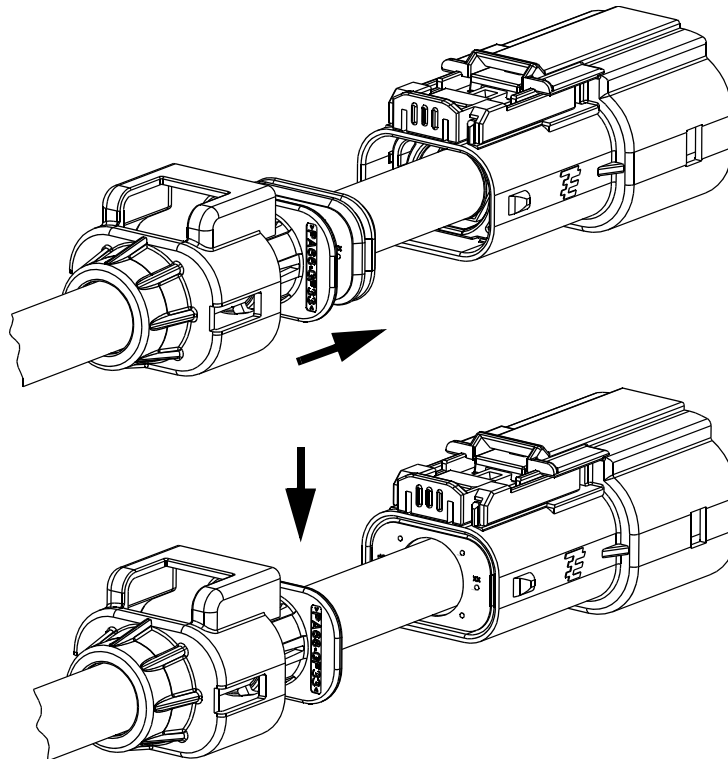

Figure 21
20. Slide the cable seal forward on the cable and into the cable exit end of the connector assembly until it stops against the spacer as shown in Figure 21.